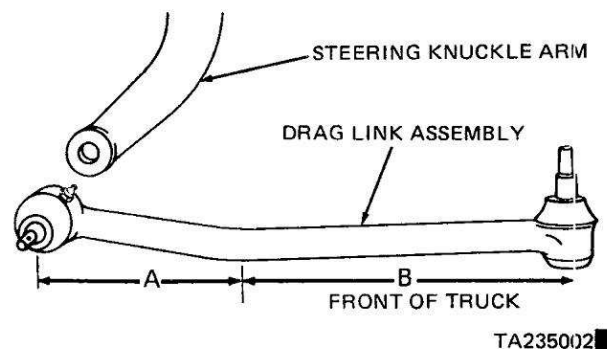

Figure 2-92. Position the Drag Link.
(1) Raise the truck and install jack stands. Remove the wheel.
(2) Turn the wheels in the direction necessary to give the best possible access to the drag link. Remove the cotter keys and nuts.
(3) Install puller tool C-3894-A. Apply enough pressure to free the drag link from the steering knuckle arm and steering gear arm. Lower the drag link from the truck.
(4) To reinstall, position the drag link to the steering knuckle arm as shown in figure 2-92.